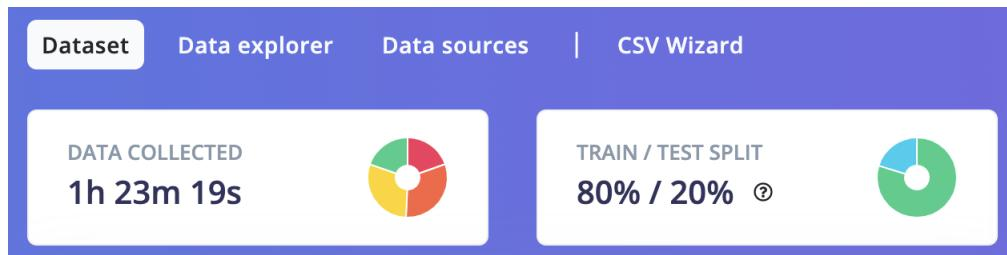

Figure 9.2: Once the data is uploaded this figure shows what your project should look like.
- (i) Once your data is uploaded, the page should look similar to Figure 9.2